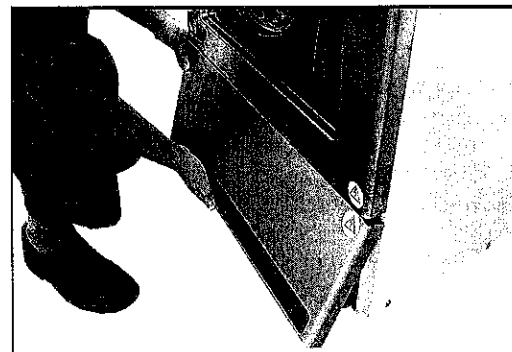

fig.36
- Position the bottom cover panel below the front panel, levering from the bottom upwards with the help of a screwdriver and fix in place with the three screws. (fig.36).